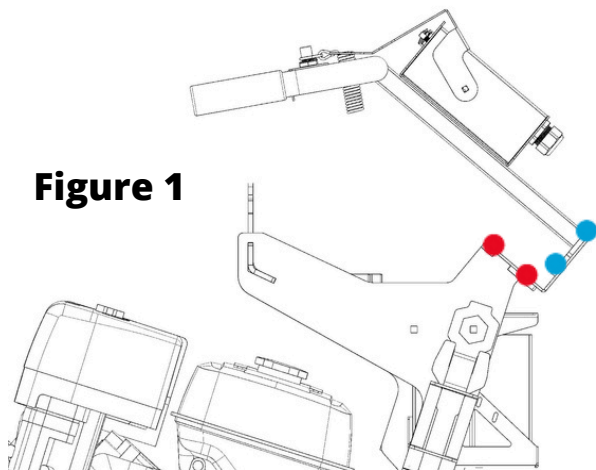

Figure 1
1. Remove the 3 bolts located in the upper handle (blue dots), followed by the 3 in the handle upright (red dots). (Figure 1)